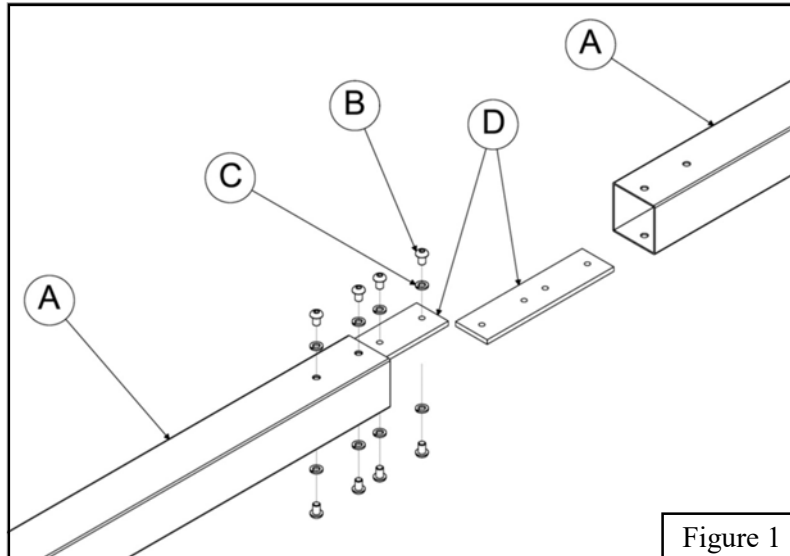

Figure 1
- 2a. Lay two *Square Pole Sections* (A) on a flat surface with drilled ends positioned as shown in Figure 1. Loosely attach two *Pole Connector Bars* (D) to one of the *Pole Sections* (A) using $1/2" \times 3/4"$ *Button Head Screws* (B), $1/2"$ *Lock Washers* (C) and $5/16"$ *Hex Key* (FF). Connect second *Square Pole Section* (A) loosely. Tighten all $1/2" \times 3/4"$ *Button Head Screws* (B) only when the drilled ends of the *Square Pole Sections* (A) are lined up forming a straight pole assembly with minimal gap between the sections.